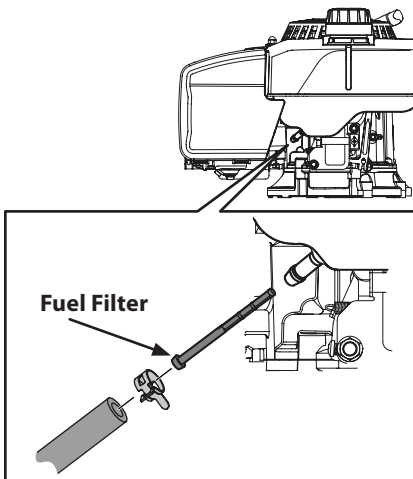

Figure 6-5
2. Remove hose clamp from fuel line and remove fuel line from tank outlet. See Figure 6-5.
4. Grasp new fuel filter from shouldered end and insert it completely to the shoulder into the tank outlet. See Figure 6-5 inset.